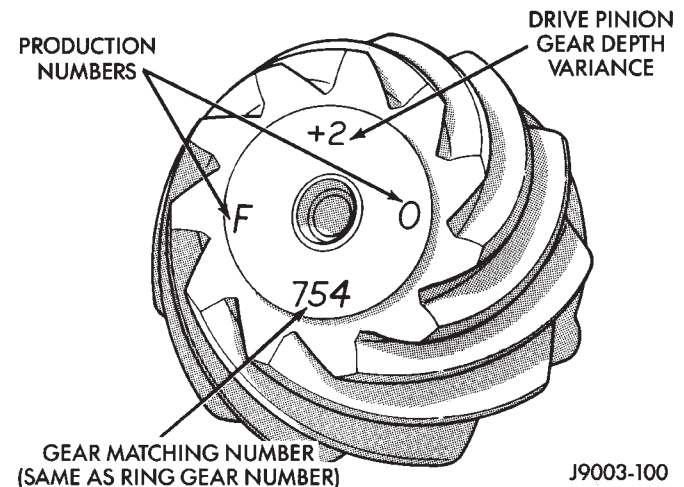

Fig. 55 Pinion Gear ID Numbers
Ring and pinion gears are supplied as matched sets only. The identifying numbers for the ring and pinion gear are etched into the face of each gear (Fig. 55). A plus (+) number, minus (-) number or zero (0) is etched into the face of the pinion gear. This number is the amount (in thousandths of an inch) the depth varies from the standard depth setting of a pinion etched with a (0). The standard setting from the center line of the ring gear to the back face of the pinion is 92.08 mm (3.625 in.). The standard depth provides the best gear tooth contact pattern. Refer to Backlash and Contact Pattern Analysis paragraph in this section for additional information.
(9) Select a shim equal to the dial indicator reading plus the drive pinion gear depth variance number etched in the face of the pinion gear (Fig. 55). For example, if the depth variance is -2, add +0.002 in. to the dial indicator reading.